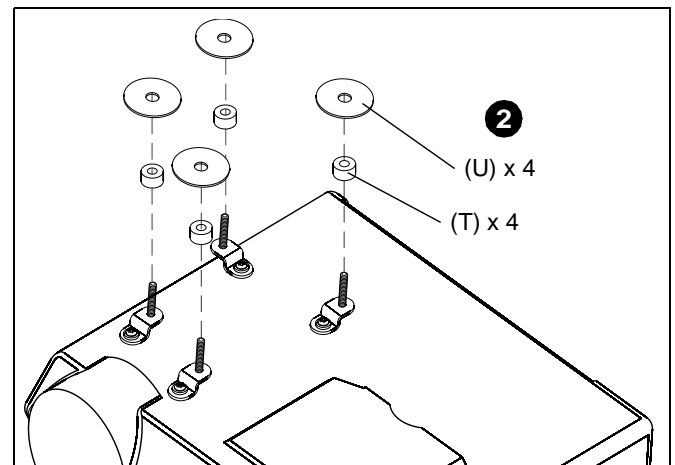

Figure 4
2. Add washers (U) to the projector security legs (R). Add spacers (T) as necessary to level the projector security legs (R). (See Figure 4)